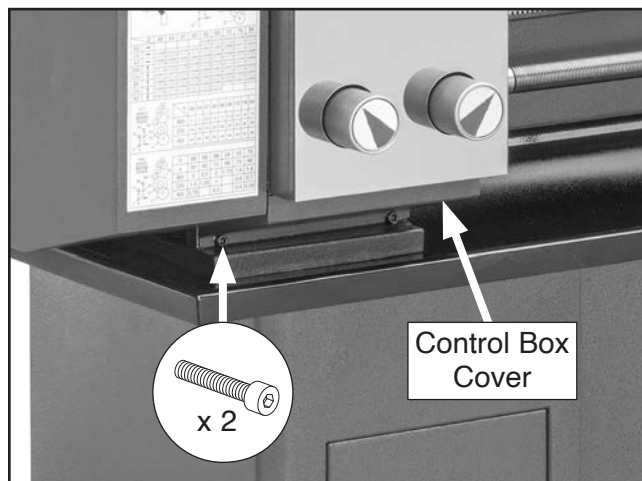

Figure 119. Location of control box cover.
4. Remove (2) cap screws shown in **Figure 119** to remove control box cover.
5. Place drain pan under drain plug (behind control box cover shown in **Figure 119**), then remove drain plug to drain oil.